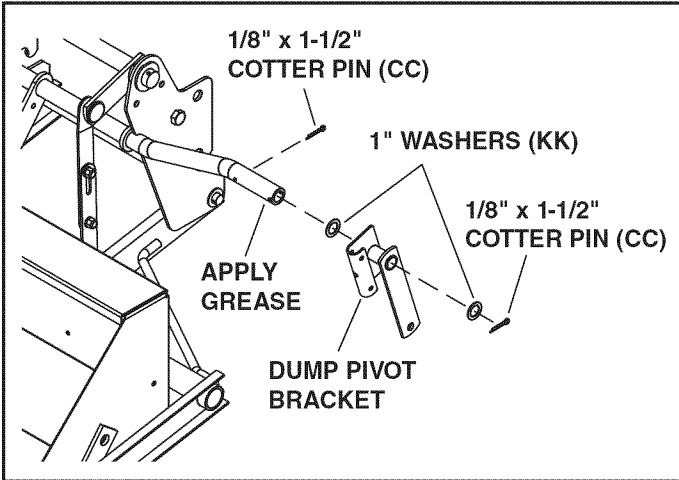

FIGURE 8
(SEE FIGURE 8)**
- Install a 1/8" x 1-1/2" cotter pin (CC) to the inside hole in the shaft shown in figure 8, and then install a 1" washer (LL) onto the shaft. Apply grease to the end of the shaft and install the dump pivot bracket assembly onto the shaft. Install a 1" washer (KK) onto the shaft and secure it using a 1/8" x 1-1/2" cotter pin (CC).